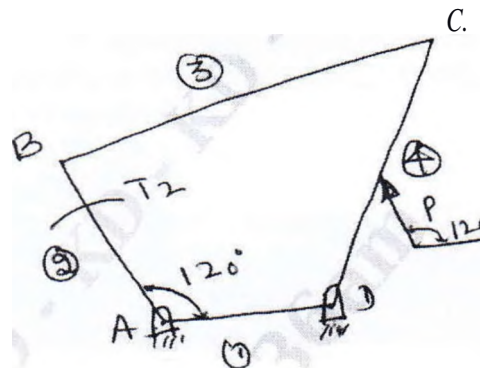

Fig.Q1(b)
- b. A four bar mechanism is shown in Fig.Q1(b), which is acted upon by a force $P = 1001120\text{ N}$ on link CD. The dimensions of various link are $AB = 40\text{ mm}$, $BC = 60\text{ mm}$, $CD = 50\text{ mm}$, $DA = 30\text{ mm}$ and $DE = 20\text{ mm}$. Determine the magnitude and direction of input torque T_i on link AB for static equilibrium of the mechanism.